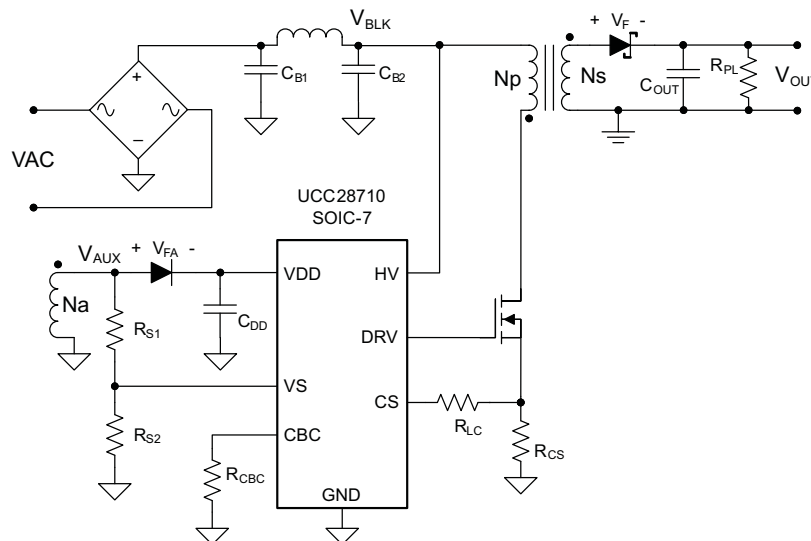

Figure 20. Design Procedure Application Example
The UCC2871x family of flyback power supply controllers provides constant voltage (CV) and constant current (CC) output regulation to help meet USB-compliant adaptors and charger requirements. These devices use the information obtained from auxiliary winding sensing (VS) to control the output voltage and do not require optocoupler/TL431 feedback circuitry. Eliminating the optocoupler feedback reduces component count and makes the design more cost effective. Refer to Figure 20 for details.
The procedure in the Detailed Design Procedure section outlines the steps to design a constant-voltage, constant-current flyback converter using the UCC2871x family of controllers. Refer to the typical application schematic for component location (Figure 20) and the Device Nomenclature section for variable definitions.